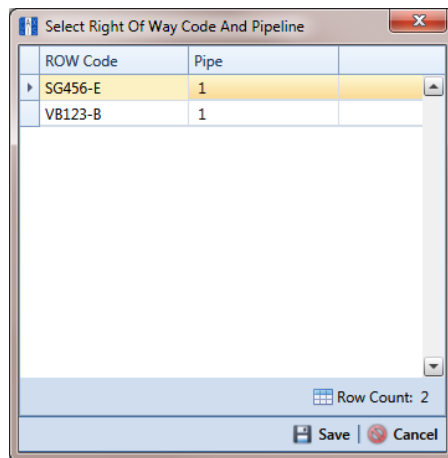
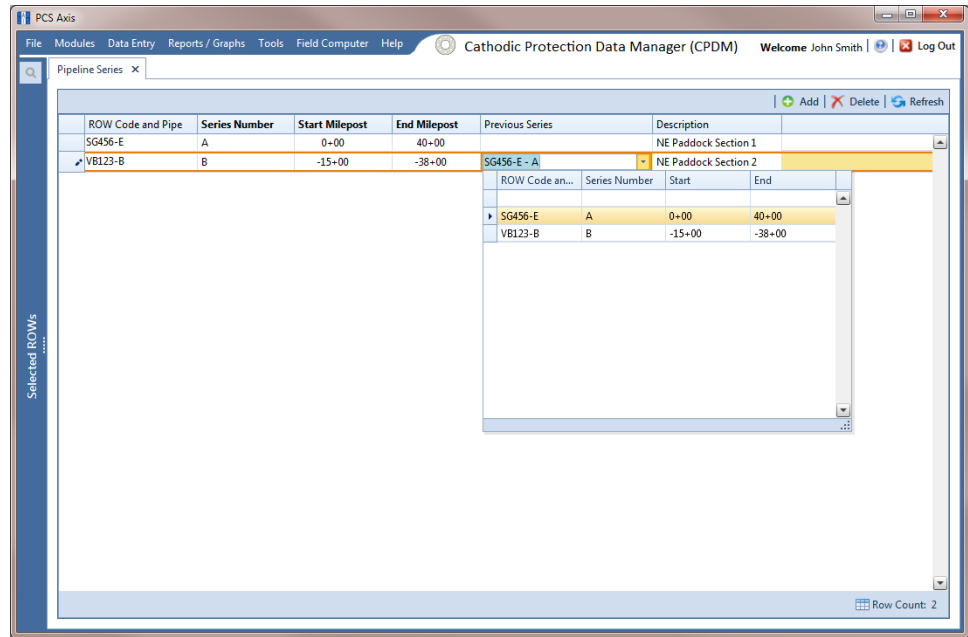

Figure 3-71. Select Right Of Way Code And Pipeline
Figure 3-73. Pipeline Series
- 4 Click **+** **Add** and then select the *ROW Code* and *Pipe* you want to work with in the dialog box that opens (Figure 3-71).
- 10 If you want to add another *Series*, complete the following steps to create a pipeline *Series* chain (Figure 3-73):
NOTE: PCS Axis uses the preceding *Series* of each *Series* in a chain to calculate the *Relative Milepost*. All *Series* in a chain except the first *Series* require that you identify the *Previous Series* (Figure 3-73).
The following example illustrates a pipeline *Series* chain with two *Series* in the chain (Figure 3-73). *Series A* was added for the original pipeline segment with a start and end milepost of 0+00 and 40+00 respectively. *Series B* was added for a pipeline extension. Because the mileposts are in reverse order in *Series B*, the *Pipeline Series* is set up with a start and end milepost of -38+00 and 0+00 respectively. Also see Figure 3-71 (page 124) for an illustration of a pipeline *Series* chain with calculated *Relative Mileposts*.